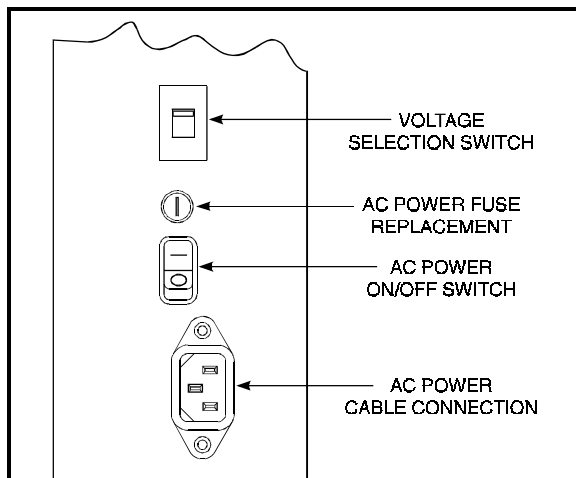

Figure 2.1 AC Power Area
The M-Series Printer's AC voltage may be set for either 100-120 VAC or 220-240 VAC operation. To match the printer's power entry selection to the available power source, refer to Figure 2.1 and follow the procedure outlined below:
2. Using a small flatblade screwdriver or similar tool, move the Voltage Selection switch to the 100-120 V or 220-240 V position as required. (The initial position of the switch depends on how the printer was ordered.) Make sure that the appropriate fuse is in place. See Fig. 2.1.
A user-replaceable AC Power Fuse is located just above the Power ON/OFF Switch. (See Figure 2.1.) For a 100-120 VAC installation, the replacement fuse is a 3AG Fast Blow style rated at 5 Amp/250VAC. For a 220-240 VAC installation, the fuse is the same style but rated at 3 Amp/250VAC. ***Make sure the fuse you use is correct for the voltage source.***